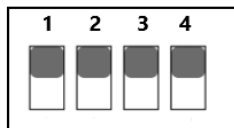

**Fig. 3**
- Attach the LED plate to the luminaire body by aligning the four butterfly screws on the body with the corresponding holes on the plate then turn clockwise to lock into place (see Fig. 3)